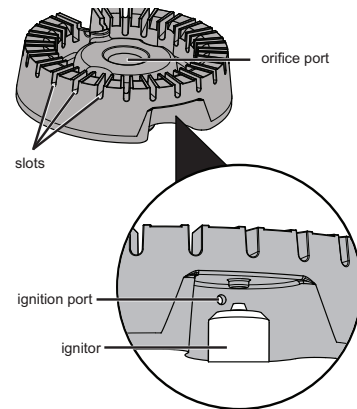

Figure 18: Sealed burner components
3. Use a toothbrush to clean all over the burner head (see Figure 18). Use the toothbrush to clean the slots and holes in the burner. Use a needle or fine wire to clean out the ignition port.